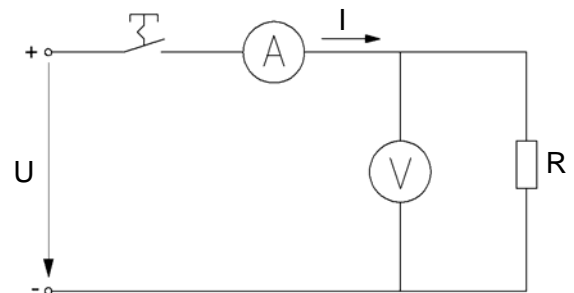

Fig. 2.2.1: Practical exercise for Ohm's law
The exercises are completed with a circuit where various values of resistance R, are used. The standard circuit symbol for a resistor is a rectangle (Fig. 2.2.1). For measurements, the ammeter is connected in the circuit. The voltage driving the flow of current, is measured directly across the current-limiting resistor.
- Assemble the exercise on the Board (Fig. 2.2.1). Connect the outputs of the Variable DC Voltage source ('0 – 30 V' is the plus pole, 'GND' the negative pole) to the inputs of the circuit. As a resistance, first use the plug-in component R = 100 Ω.